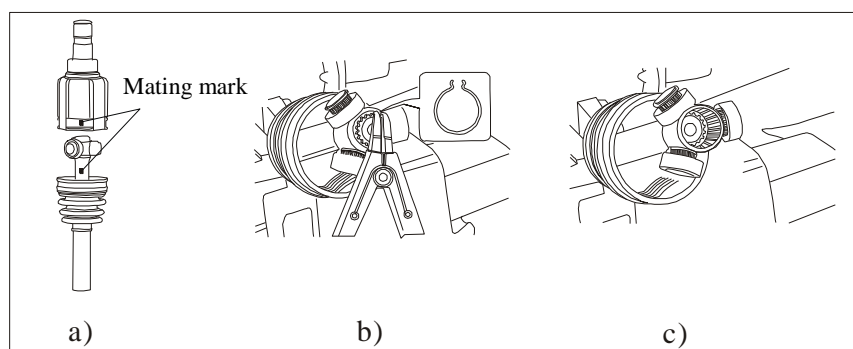

Figure 4-86 Pull out Drive Shaft
3) As shown in Figure 4-86, make fitting markings on tripod assembly and drive shaft, place the drive shaft in proper position, remove drive shaft end spring clamp by using the special service tool (spring clamp pliers), and then pull out the drive shaft from the tripod assembly.